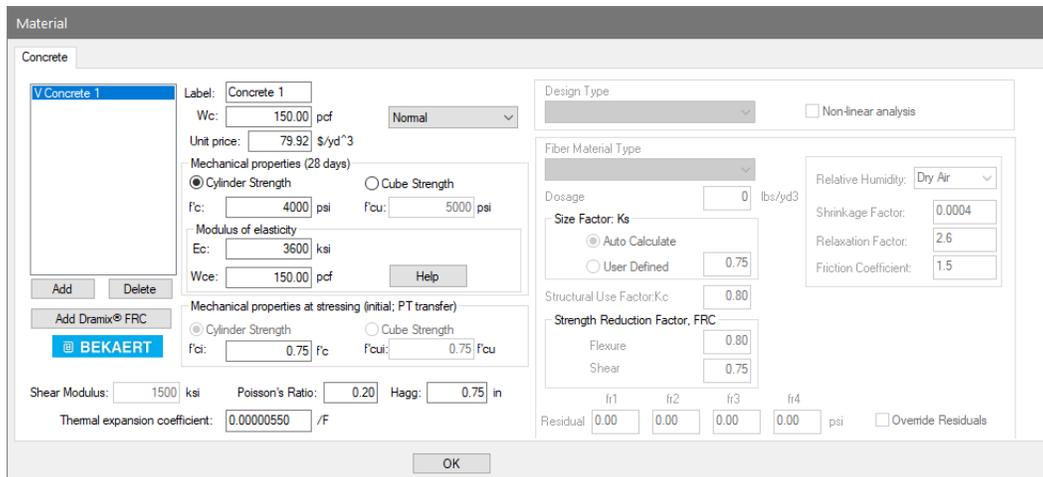

Figure 2-7
- Go to *Criteria* → *Material Properties* and click on the *Concrete*  icon. This will open the *Material* window shown in **FIGURE 2-7**.